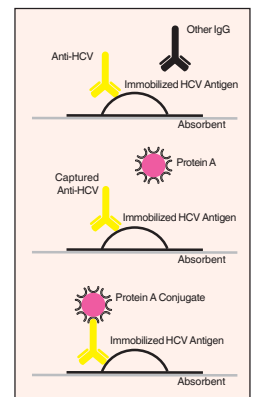

Fig.4 Principle of the Assay
1. HCV antigens are immobilized on a porous immunofiltration membrane. Sample and the reagents pass through the membrane and are absorbed into the underlying absorbent pad (Fig. 4).
2. As the patient's sample passes through the membrane, HCV antibodies if present in serum/plasma, bind to the immobilized antigens. In the subsequent washing step, unbound serum/plasma proteins are removed (Fig. 4).